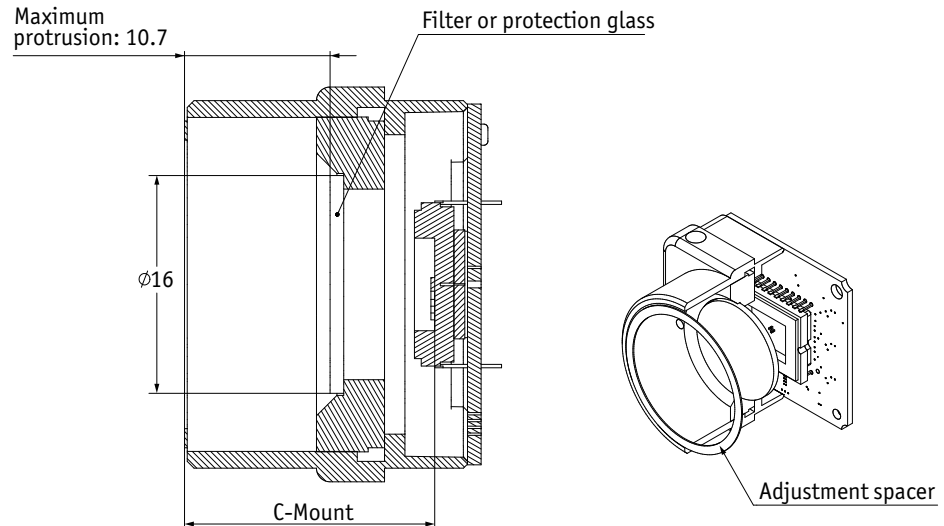

Figure 22: Guppy PRO C-Mount dimensions
Lens mount	Adjustable C-Mount: 17.526 mm (in air); Ø 25.4 mm (32 tpi) Maximum protrusion: 10.1 mm (see <a href="#">figure 22: on page 72</a> )
- Mount only lenses or objects with less than 10.7 mm for maximum protrusion, see Figure 22.
Temporarily, a different filter holder was used. With V4.2.3 of this document, manufacturing returns to the previous filter holder. By mistake, Figure 22 was not updated for the temporary change. Therefore, it reflects the current state.
Please observe that maximum protrusion has temporarily been 13.2 mm. The **current value is 10.7 mm** as shown in Figure 22.